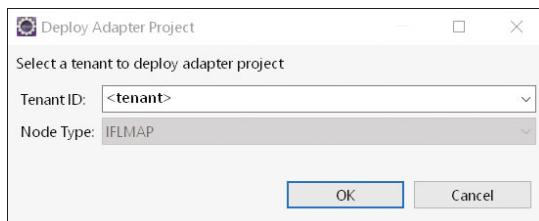

Figure 6.103 Confirming the Tenant to Which the Adapter Project Will Be Deployed
3. The **Deploy Adapter Project** dialog box appears (Figure 6.103) where the tenant is displayed (it should be the tenant to which you're connected with Eclipse; if there are doubts, check the settings under **Window** • **Preferences** • **SAP Cloud Platform Integration** • **Operations Server**).